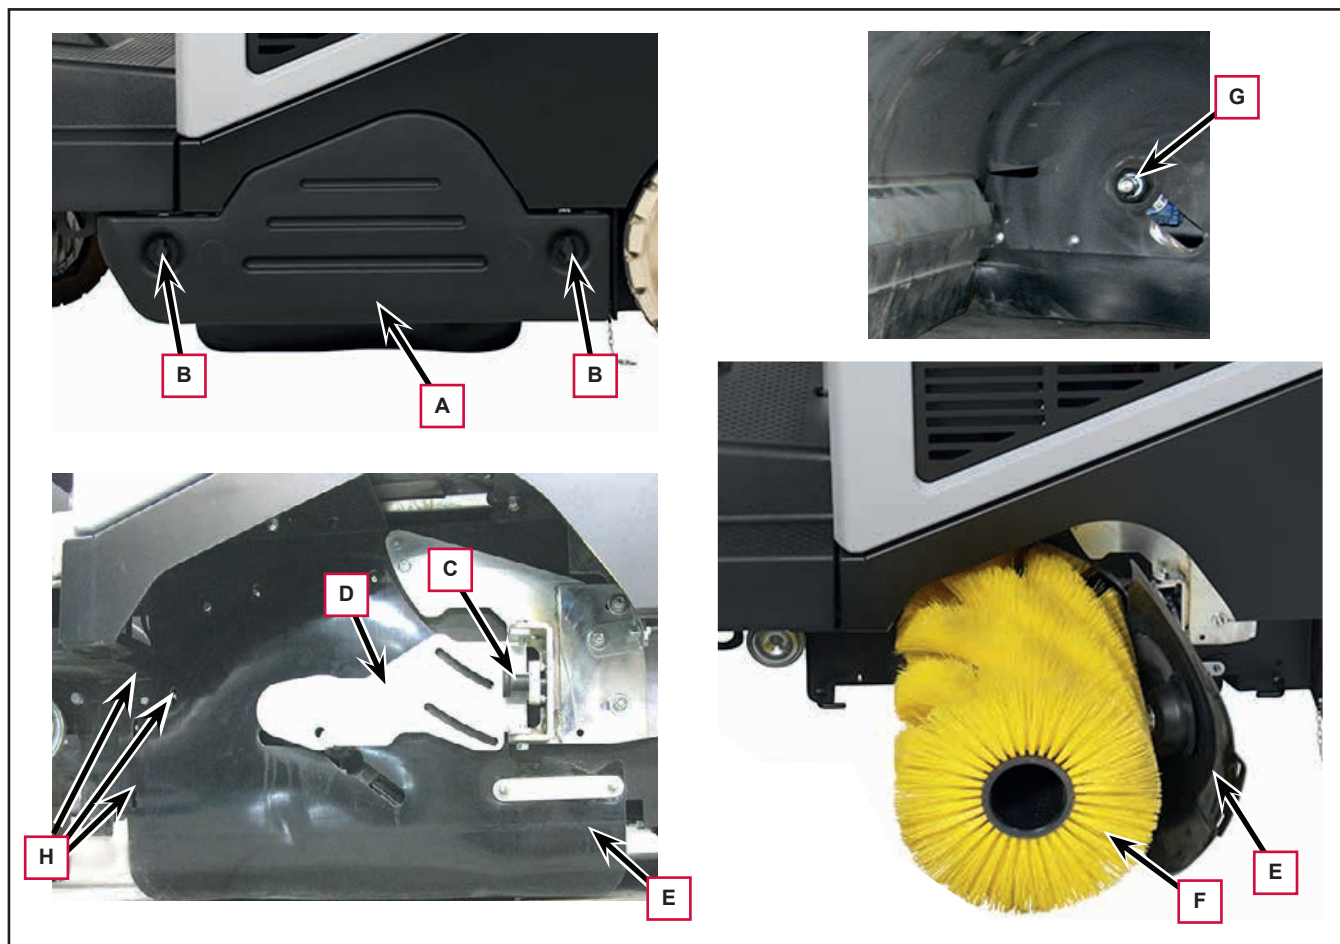

Figure 10
4. Turn the fasteners (B) and remove the left door (A, Figure 10).
5. Pull the knob (C) as indicated by the arrow to disengage the closing support (D).
6. Open the closing support (D) together with the left side skirt (E), disengaging it from the various fasteners (H).
7. Remove the main broom (F).
8. Check that the drive hub (G) is free from dirt or foreign materials (cords, rags, etc.) accidentally rolled up.